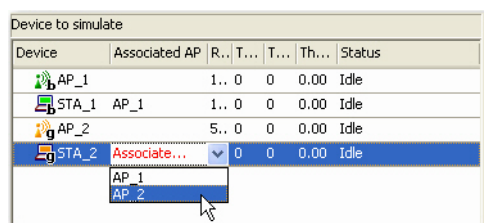

Figure 17-9: Associating station with AP
- 4) Associate STAs with APs by clicking an STA and then the down arrow next to it to select an AP to associate with, as shown in Figure 17-9.